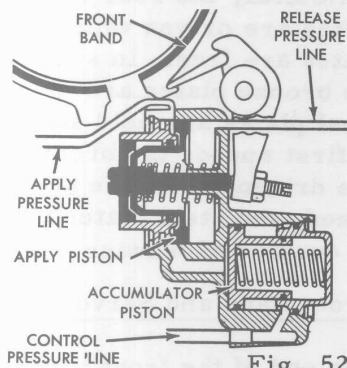

Fig. 52
- ☒ To cushion band application, an accumulator piston in the front servo operates with the apply piston. Oil pressure is exerted against both the apply piston and the accumulator piston simultaneously; however, the apply piston offers less resistance to the pressure than the accumulator piston, and rapidly moves out to start application of the band (Fig. 52).